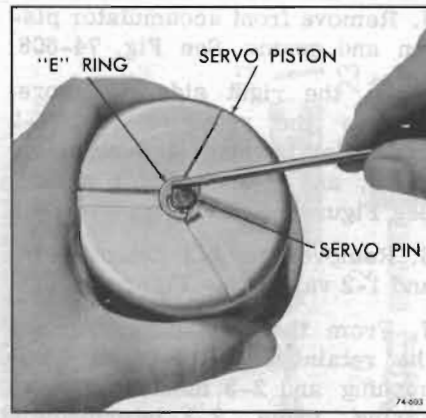

Figure 74-603
2. Remove "E" ring retaining rear servo piston to band apply pin. See Figure 74-603.